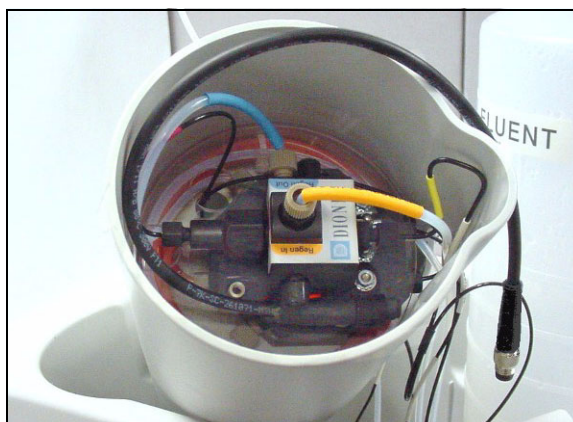

Figure 31. CR-TC Installed in Holder
5. Check that none of the lines are caught under the CR-TC and then push the CR-TC onto the metal stud inside the EGC holder (see Figure 31). Push down until the CR-TC snaps into place.